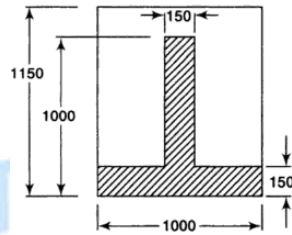

Figure 2
10. A composite beam of rectangular section is made up of a pretensioned inverted T-beam as shown in figure 2 having a slab thickness and width of 150mm and 1000mm respectively. The rib size is 150mm and 850mm. the cast in situ concrete has a thickness and width of 1000mm with a